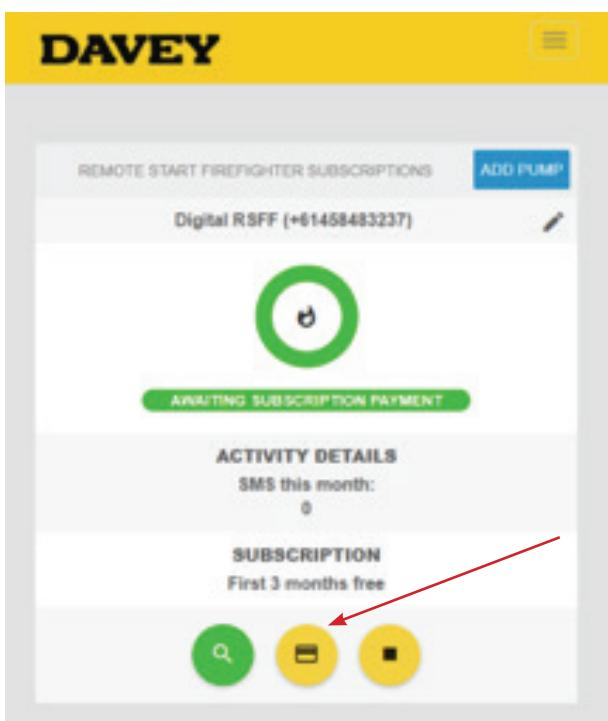

Figure 7.17
- > To make a payment, or renew a subscription, click the "CARD" symbol (Figure 7.17);